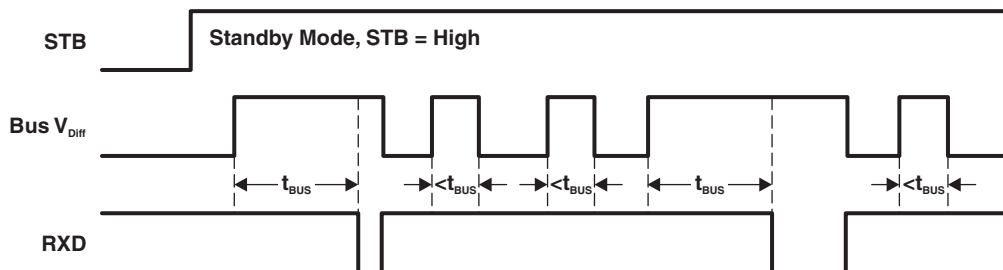
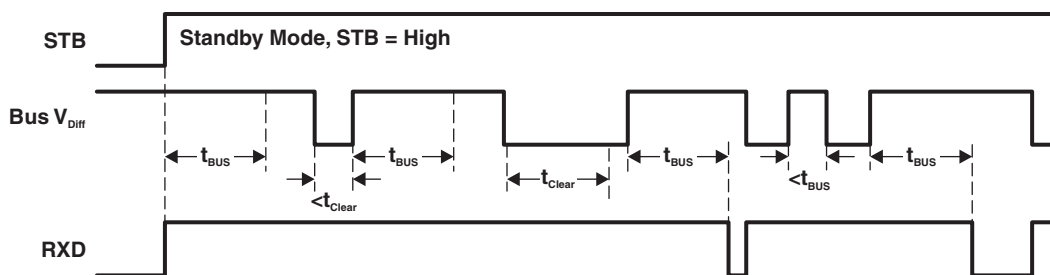

Figure 5. HVDA551 RXD Wake-Up Request With No Bus Fault Condition
Figure 6. HVDA551 RXD Wake-Up Request Lockout During Bus Dominant Fault Condition
(1) Mirrors bus state: LOW if CAN bus is dominant, HIGH if CAN bus is recessive.
(2) See Figure 5 and Figure 6 for operation of the low-power wake-up receiver and bus monitor for RXD wake-up request behavior and Table 5 for the wake-up receiver threshold levels.
- (1) H = high level, L = low level, X = irrelevant, ? = indeterminate.
(2) While STB is high (standby mode) the RXD output of the HVDA551 functions according to the levels above and the wake-up conditions shown in Figure 5 and Figure 6.
(3) When V_{IO} is undervoltage, the device is forced into standby mode with respect to the CAN bus, because there is not a valid digital reference to determine the digital I/O states or power the wake-up receiver.